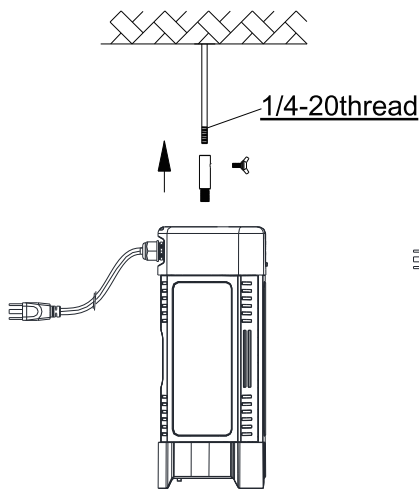
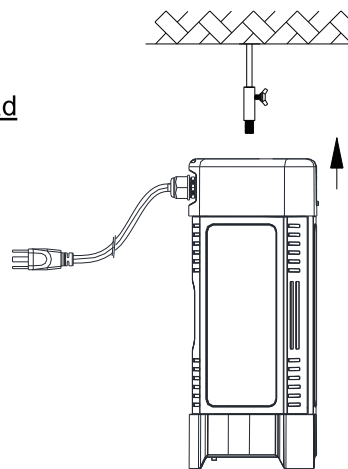

Figure 12
Figure 13
1. Only suitable for threaded round pole with the diameter 1/4inch. Put the 1/4 NPT Stem into the round pole (Figure 12), then tighten the 1/4 NPT Stem by screwing the butterfly screw (Figure 13).
2. Connect the fixture to the 1/4 NPT Stem; (Figure 13, 14) Finally connect the plug to the socket.